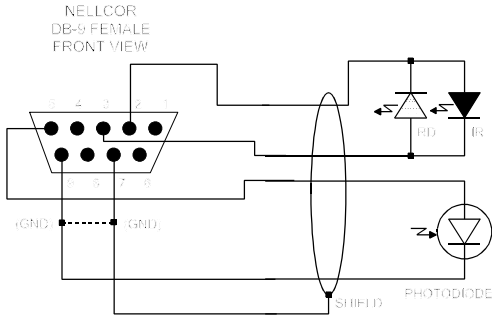
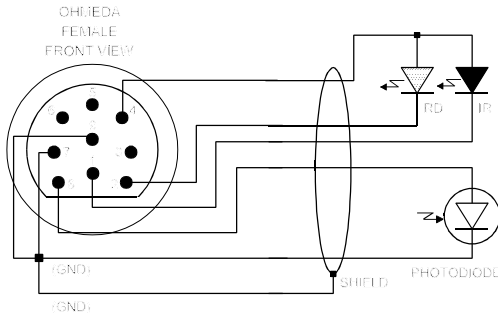

Figure 14 - Nellcor® pin-out.
Figure 15 - Omeda pin-out.
- The pin-out of the **Sensitest** Nellcor input is shown in **Figure 14**, and the pin-out of the Ohmeda input is shown in **Figure 15**. Note that the **Sensitest** circuit ground (GND) is internally connected to the cable shield and to the photodiode cathode for both Nellcor® and Ohmeda inputs.
Based on the schematics of **Figure 14** and **Figure 15**, determine the adaptor cable wiring so the appropriate diode is connected to the correct pin of the **Sensitest** front panel connector. An example of a cable for adapting the **Sensitest** Nellcor input to a sensor for a Hewlett-Packard pulse oximeter (M1020A) is given in **Figure 16**.